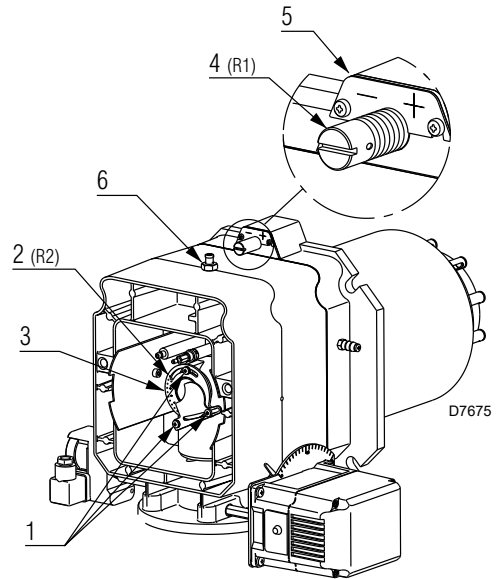
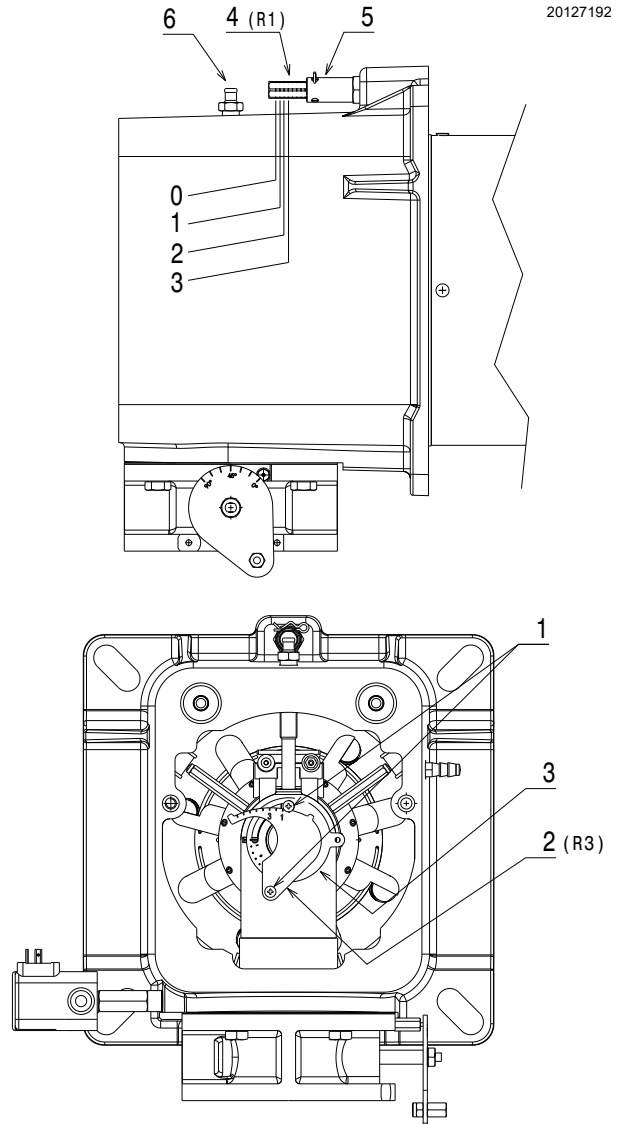

Fig. 18
Fig. 19
- Rotate the screw 4)(Fig. 18 - Fig. 19) until the notch you have found corresponds with the front surface 5) of the fitting.